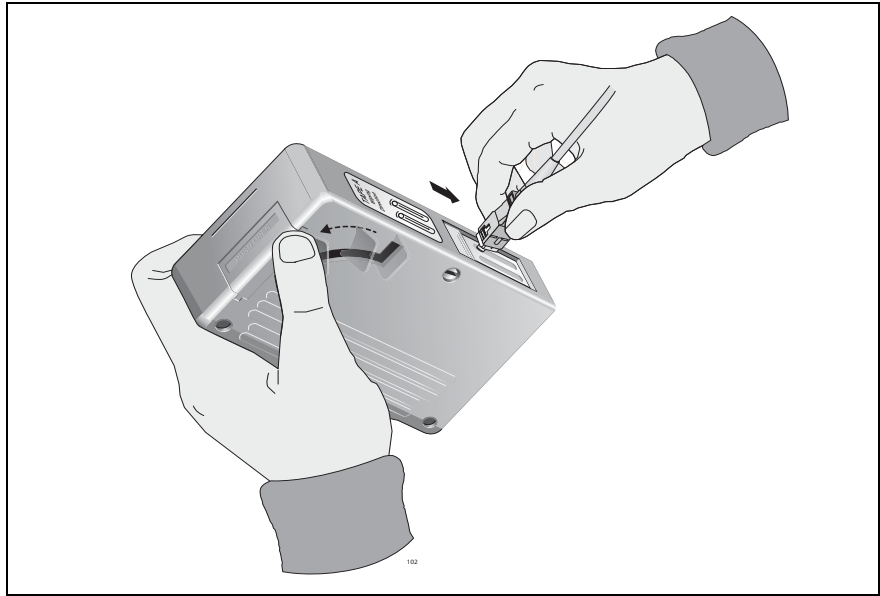

Figure 45. Rubbing the Ferrule Tip on the Cleaning Surface
1. With one hand, hold the cartridge cleaner and push the lever on the cleaning cartridge in the direction of the arrow to expose the cleaning surface, as shown in Figure 45 on page 83.
2. Place the ferrule tip on the exposed cleaning surface and rub the ferrule in a downward direction, as shown in Figure 45.